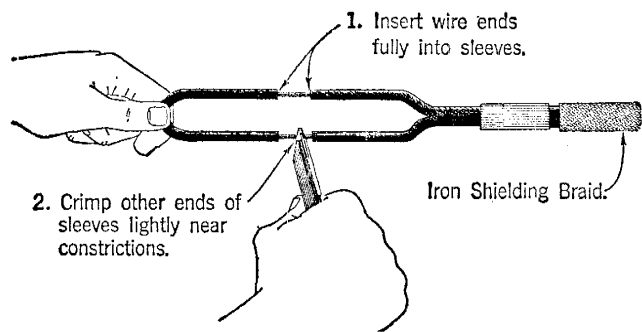

Fig. 6
3.02 Insert the conductors of the other wire end into the sleeves as shown in Fig. 6.